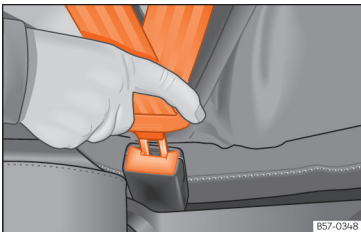

Fig. 25 Insert the latch plate of the seat belt into the buckle.
- Insert the buckle plate in the buckle of the correct seat »» Fig. 25.